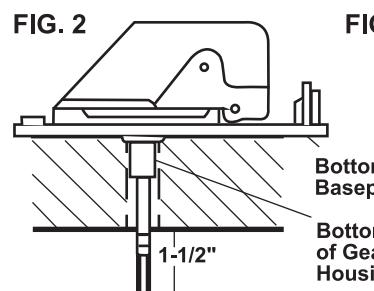

FIG. 2
STEP 4: The mount is designed to fit roofs from 1" to 4-3/4" thick. As supplied, the mount will fit a roof 4-3/4" thick. If roof is less than 4-3/4" thick, cut elevating shaft and directional handle to size, steps shown in figures 2, 3, 4 and 5. If roof is more than 4-3/4" thick (max. 7"), a directional handle extension is needed. Order Winegard Model EK-1036, Directional Handle Extension.
STEP 5: Center elevating shaft in hole on roof. Temporarily secure base plate to roof with two screws provided. (**Do not apply sealant at this time**). Inside unit, make a mark on the shaft 1-1/2" below ceiling and cut shaft on this mark. See figure 2.